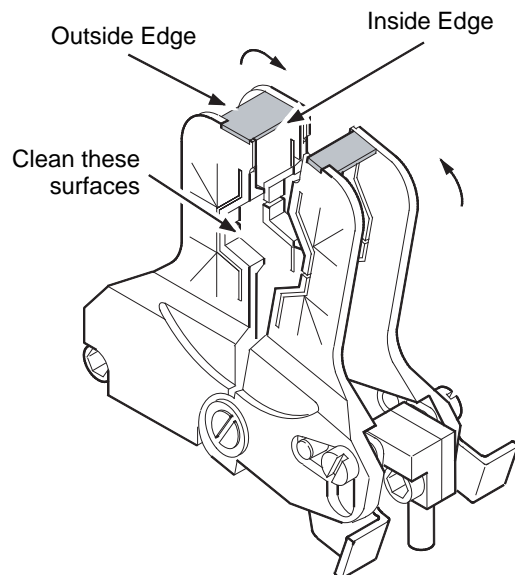

Figure 25 Checking / Replacing the Insulator Tape
2. If applicable, check the fixture insulating tape for damage. Replace the tape if it is loose or torn, exposing the metal under it. See Figure 25.
- c. Apply one end of the pre-cut tape strip to the inside edge of the underside surface. The tape should wrap in the direction shown in Figure 25.